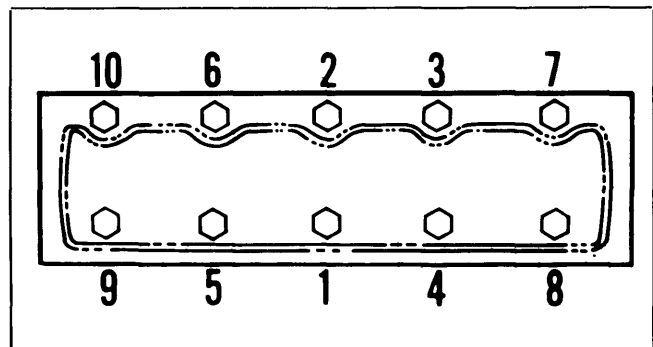

Fig. 2 Cylinder Head Tightening Sequence
2) Torque head bolts to specifications gradually. Follow tightening sequence shown in Fig. 2. Reverse removal procedure to complete installation.